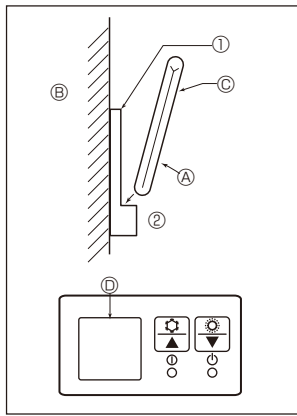
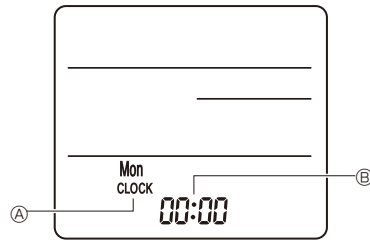

Fig. 6-7
Fig. 6-8
2) Installation method (Fig. 6-7)
- ① Attach the remote controller holder to the desired location using 2 tapping screws.
- ② Place the lower end of the controller into the holder.
3) Setting (Clock setting) (Fig. 6-8)
- ① Insert batteries or press the **CLOCK** button with something sharp. [CLOCK] Ⓐ and [:] Ⓑ blink.
- ② Press the **RESET** button with something sharp.
- ③ Press the **↓** button to set the time. Press the **DAY** button to set the Day.
- ④ Press the **CLOCK** button with something sharp at the end. [CLOCK] and [:] lighted.